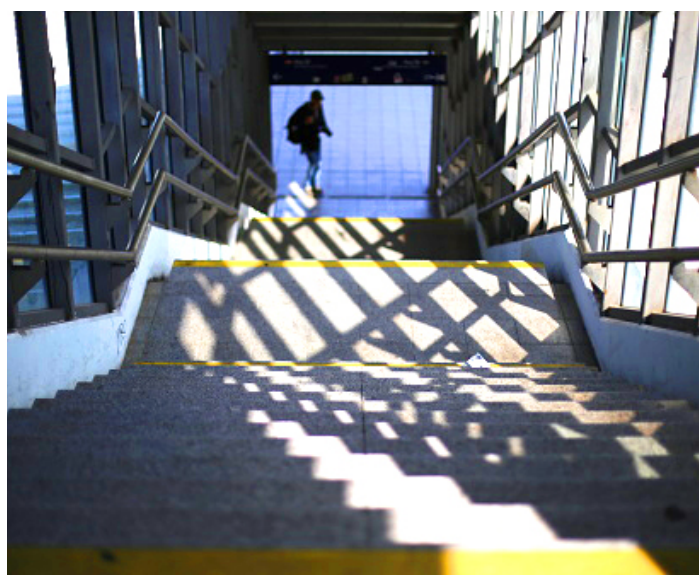

Figure 1 – Landing edges highlighted yellow. Excessive shadows distort perception of steps.
- Provide contrasting surfaces to make changes in steps visible. (See Figure 1.) The most important area is the edge of the landing before the first step, where shadows may affect the visibility of the steps.
- Highlight edges of walking surfaces that lead to the first downward step to help pedestrians avoid stepping out without seeing the steps. (See Figure 1.)